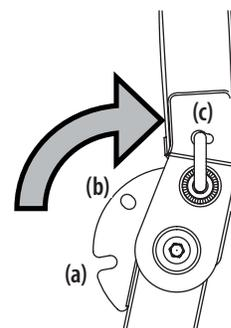

Figure 5
- Move the ROPS into the desired position. See Figure 5.
NOTE: The three positions are TRANSPORT (a) position, TRANSPORT WITH BAGGER (b) position and into the OPERATION (c) position. See Figure 5.